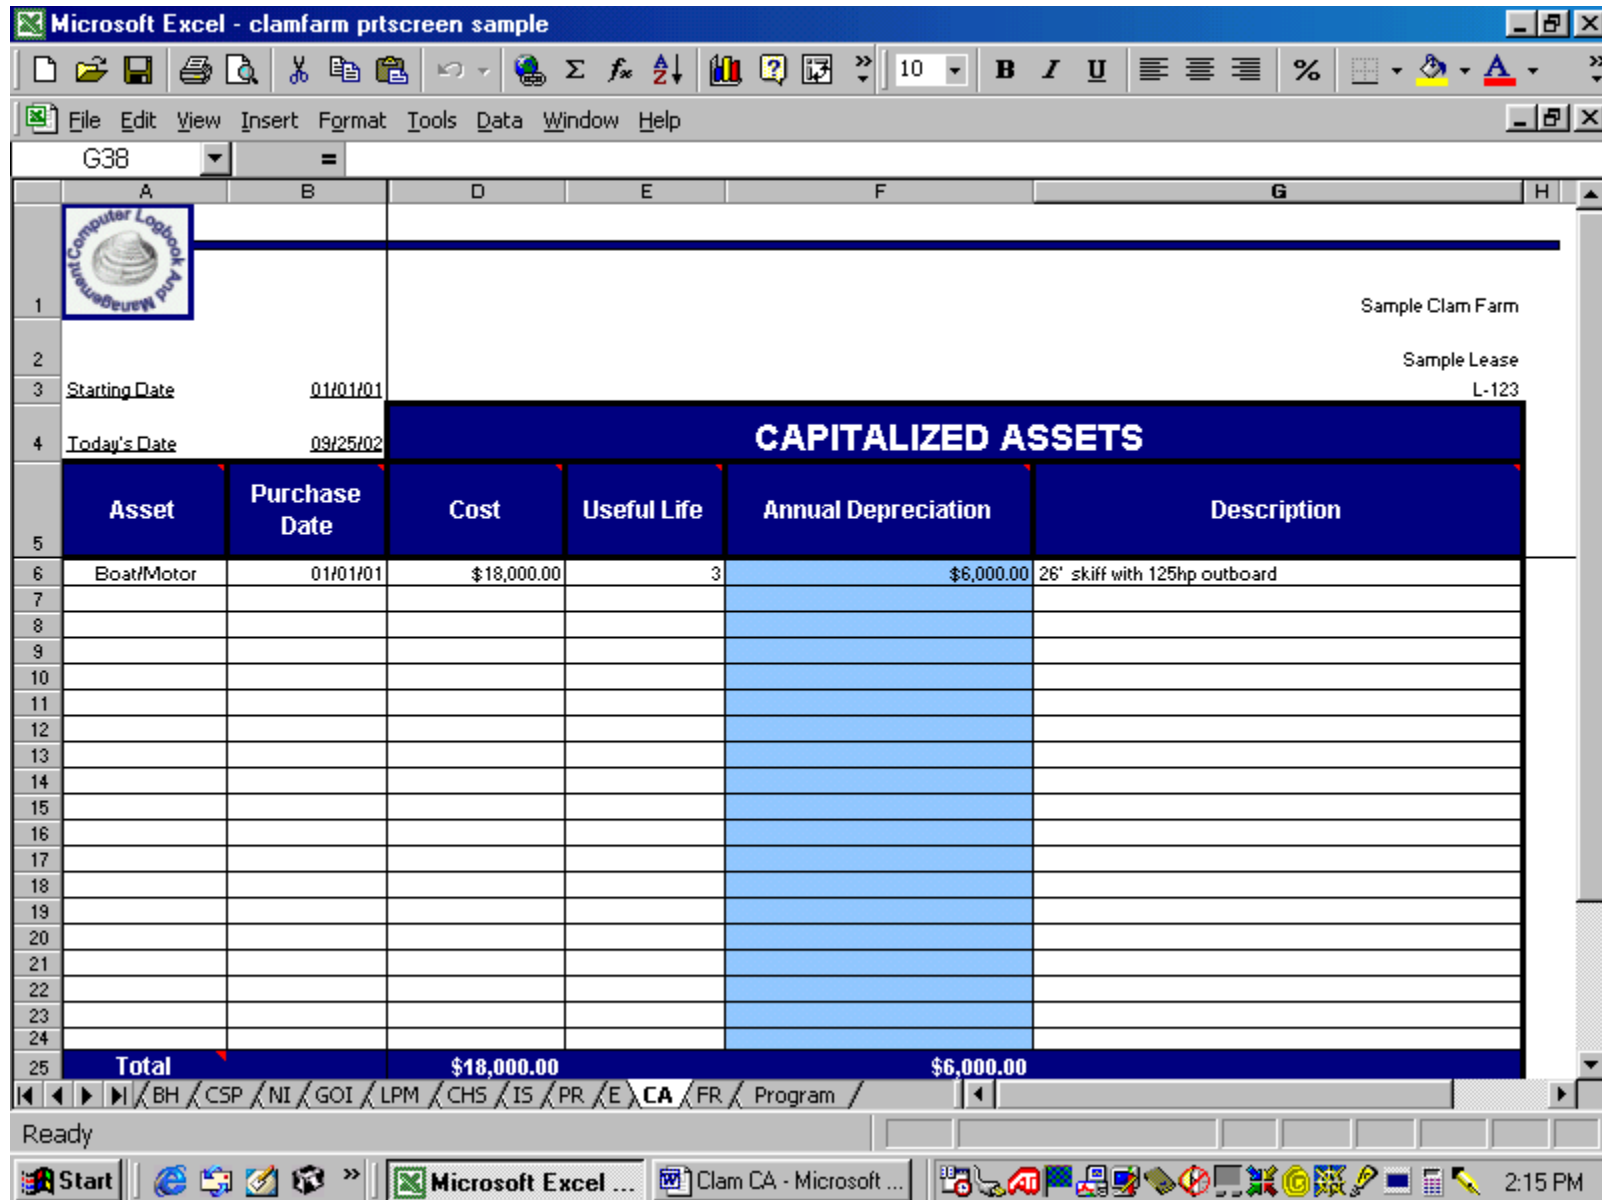

Figure 13.
**This module provides the user with a means to estimate depreciation on all capitalized assets. (see Figure 13)**